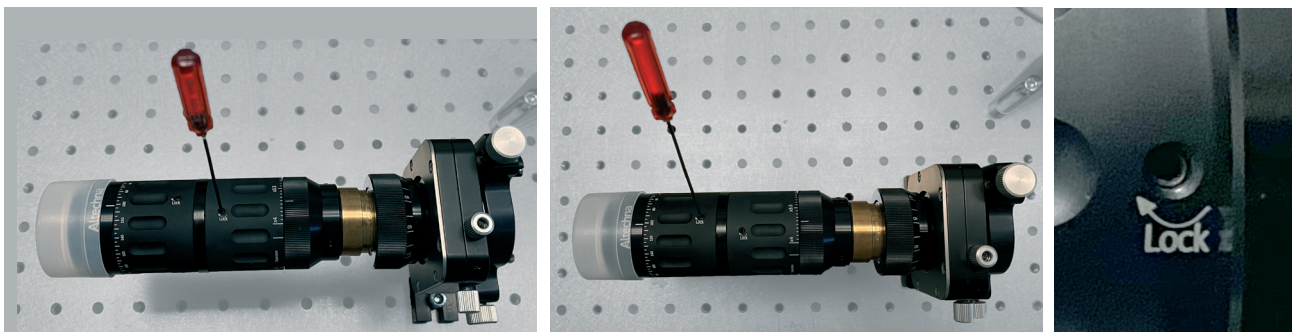

Figure 13. Unlocking expansion and focusing regulators.
4. Place the VBE into the 4-axis mount and unlock expansion and focusing cylinders with 1.3 mm hex (fig. 13):